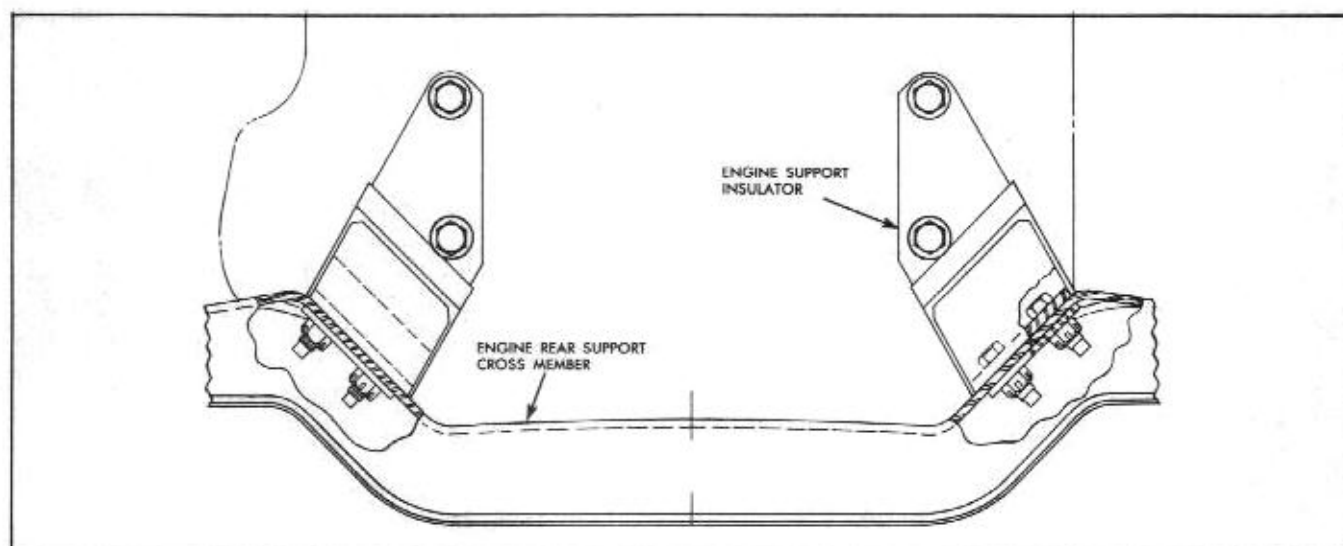

Fig. 6-24 Engine Rear Insulator Mounting
5. Lower engine so rear insulators are resting on frame cross member and insert insulator to frame bolts from top. Install self locking nuts (Fig. 6-24) and tighten to 35 lb. ft. torque.